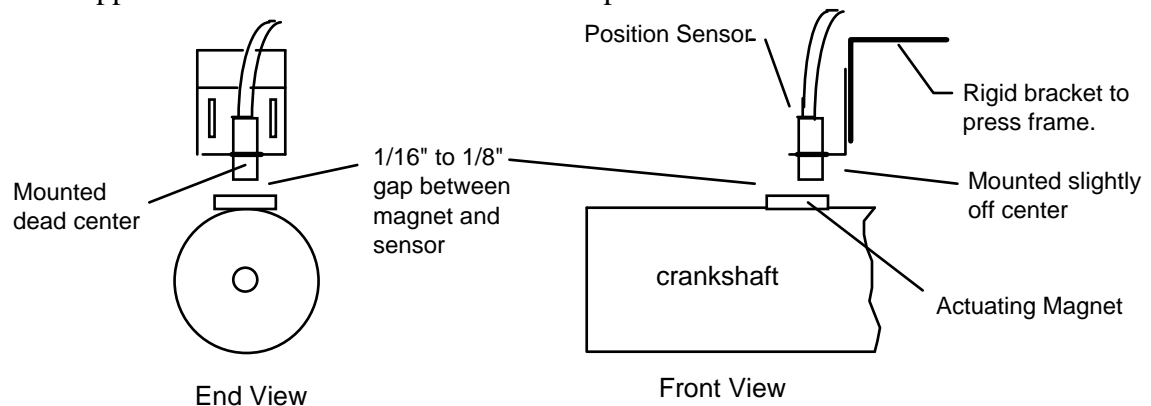

Figure 2-14. How to install the position sensor
6. Install the position sensor as shown in Figure 2-14. The magnet should be installed plastic side up with a non-ferrous metal screw. It is important not to use a ferrous screw because it could cause false signals. A brass screw (6-32) is supplied. Use a No. 36 drill and a 6-32 tap.